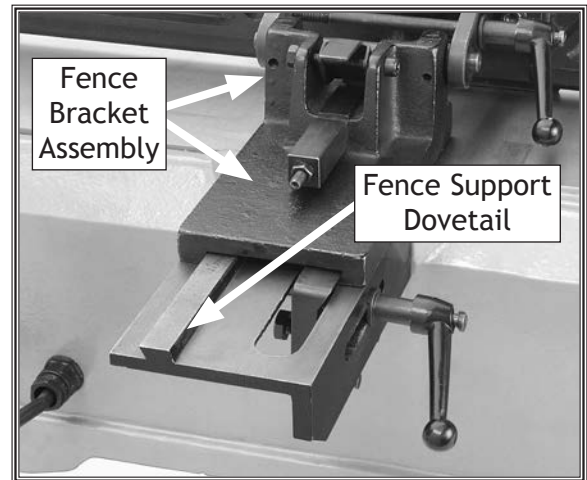

Figure 13. Sliding the fence bracket onto the fence support dovetails.
- Slide the fence bracket assembly over and onto the dovetail of the support and locking plate, as shown in Figure 13.